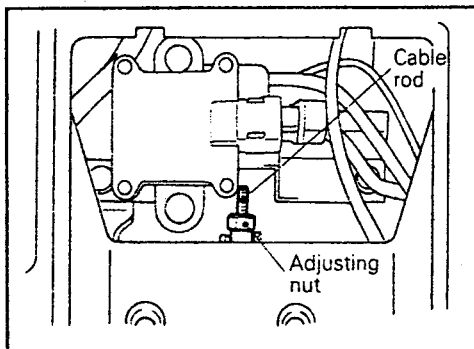

Fig. 13.13. — The adjusting nut for the handbrake cables.
- Release the handbrake lever and remove the switch panel on the floor console box. Using an open-ended spanner, slacken the handbrake cable adjusting nut, thereby freeing the handbrake cable (Fig. 13.13).
- Check that there is no play on the handbrake cable end (Fig. 13.13). Otherwise tighten the nut until it is just touching its seat. The nut must be locked by the nut holder.